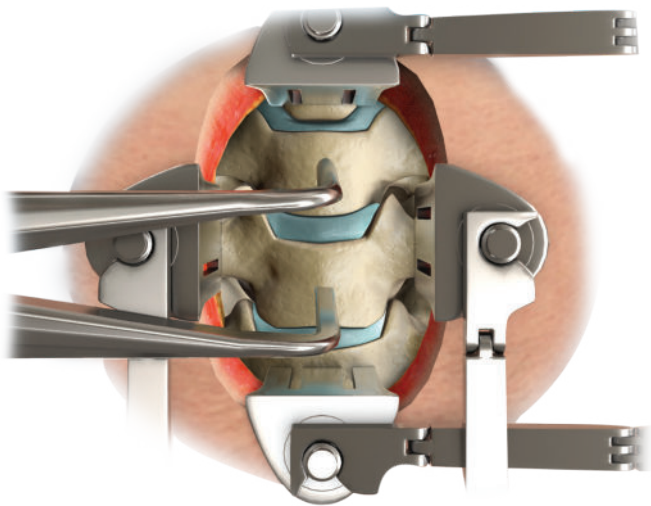

Figure 3
- Access the operative site and retract the tissues using preferred instruments. Retract the muscles, trachea, esophagus and carotid artery to clearly see the vertebral bodies and discs (Figure 3).